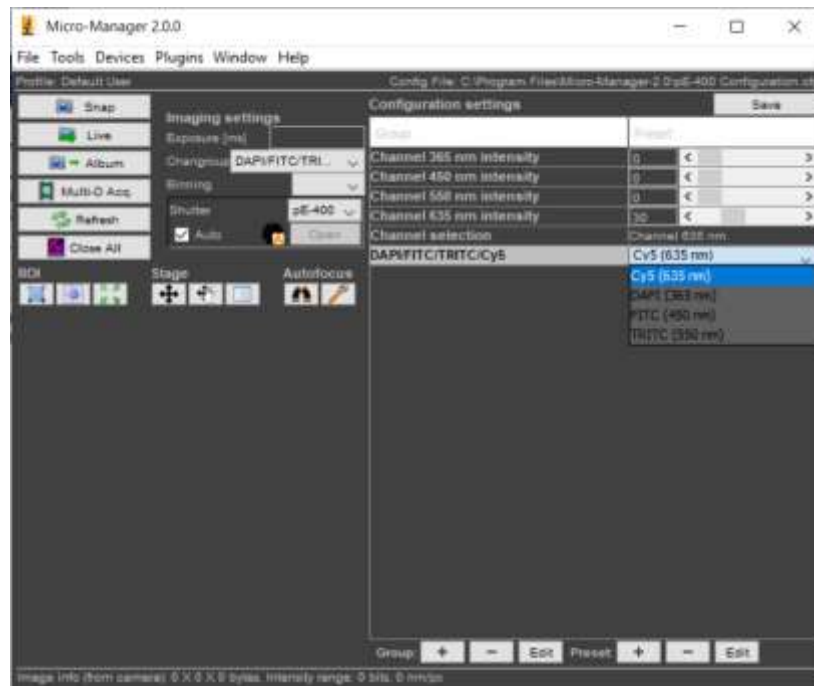

Figure 21: For a multi-dimensional acquisition, presets for channel selection and intensity are now available for each fluorophore
3. Repeat steps 2a-c to add the remaining fluorophores, referencing Section 9.1 LED Labels for the corresponding channel names. When complete, the Preset dropdown menu on the main screen appears as in Figure 21.